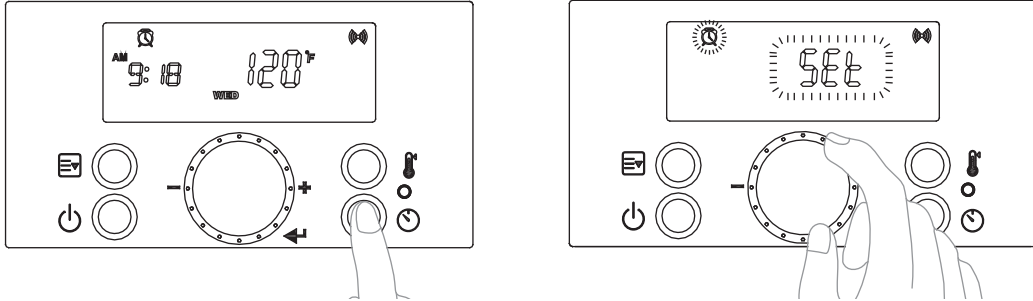

Figure 42 – Setting the Recirculation Run Time
b. Turn the dial  until "SET" flashes on the screen. Press the  button at the "SET" screen to set the Recirculation Run Time. See Figure 42.